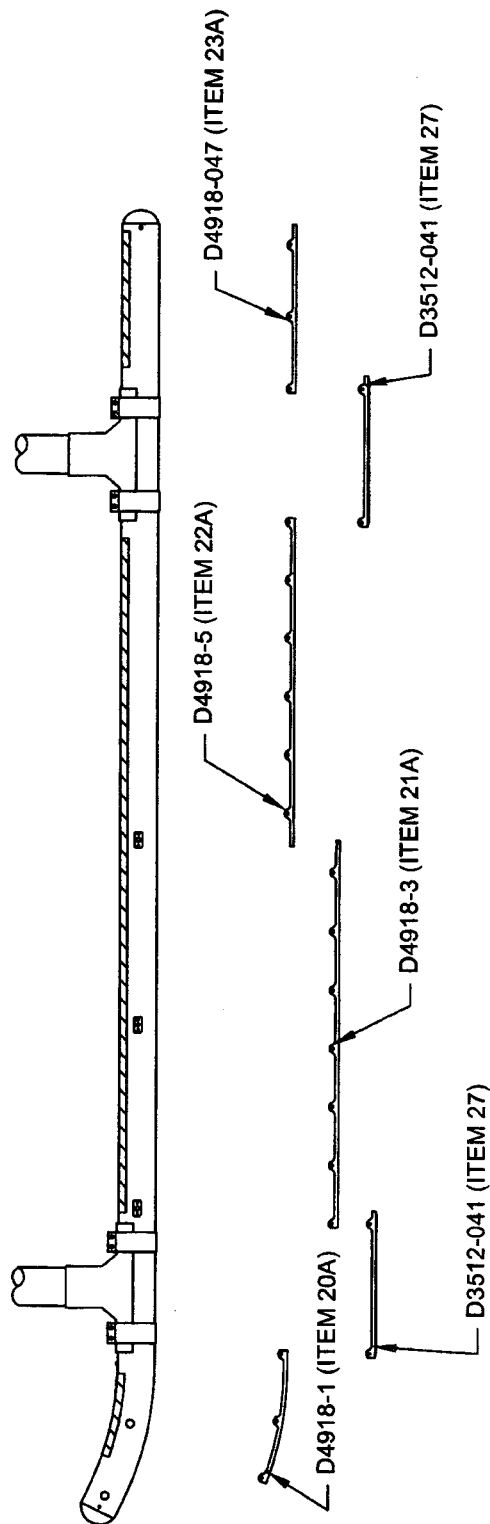

FIGURE 1: WEARPLATE INSTALLATION
32.3.3 INSTALL REPLACEMENT D4918-1/-3/-5/-047 WEARPLATES USING AN3C BOLTS AS APPLICABLE AS SHOWN IN FIGURE 1 OF THIS SERVICE INSTALLATION. INSTALL (QTY 2) D3512-041 WEARPLATES (ITEM 27) OVER FWD AND AFT CLAMPS AS SHOWN IN FIGURE 1 USING AN3C BOLTS AND AN960C10L WASHERS. TORQUE BOLTS 15-25 IN-LB (1.7-2.8 N-m). SEAL WEARPLATE INSERTS USING SIKAFLEX-241/-291 OR PROSEAL 890 MIL-S-8802 CLASS B2 SEALANT.